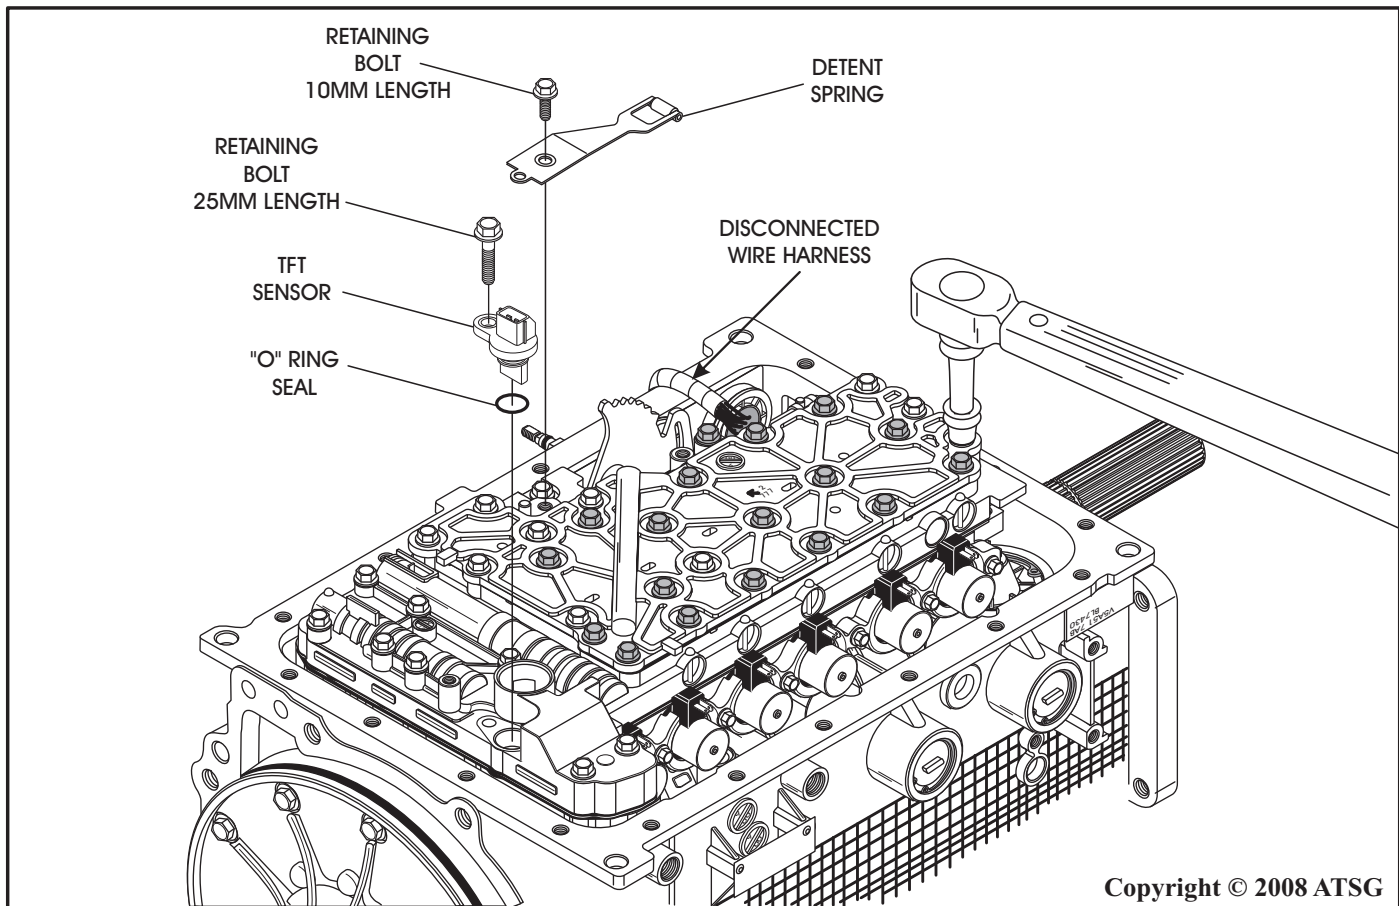

Figure 225
88. Install new "O" ring seal onto the TFT sensor, as shown in Figure 225.
89. Install the completed TFT sensor into the valve body, as shown in Figure 225, and hand tighten only at this time.
90. Now, you can torque all valve body to case retaining bolts to 11 N•m (97 in.lb.), as shown in Figure 225.
91. Install the inside detent spring and bolt, as shown in Figure 225, and torque the bolt to 6 N•m (52 in.lb.).